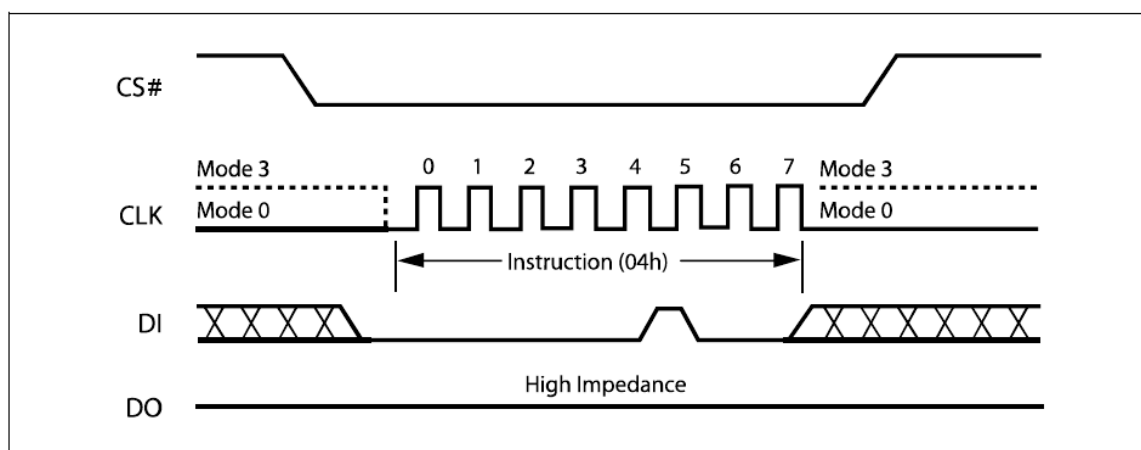

Figure 9. Write Disable Instruction Sequence Diagram
The Write Disable instruction (Figure 9) resets the Write Enable Latch (WEL) bit in the Status Register to a 0 or exit from OTP mode to normal mode. The Write Disable instruction is entered by driving Chip Select (CS#) low, shifting the instruction code "04h" into the DI pin and then driving Chip Select (CS#) high. Note that the WEL bit is automatically reset after Power-up and upon completion of the Write Status Register, Page Program, Sector Erase, Half Block Erase (HBE), Block Erase (BE) and Chip Erase instructions.